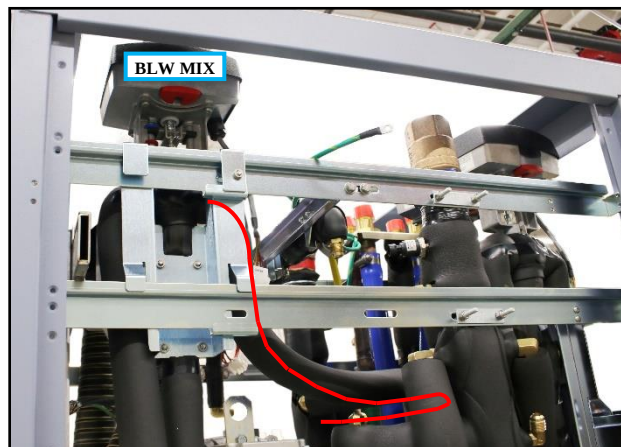

Figure 18. Blower Mixing Valve (Port 'AB') to Facility Return Header
- c. Using a 7/8" wrench and an adjustable wrench for support (Refer to Figure 3 for reference), loosen and remove hose from return header (Figure 18 below).